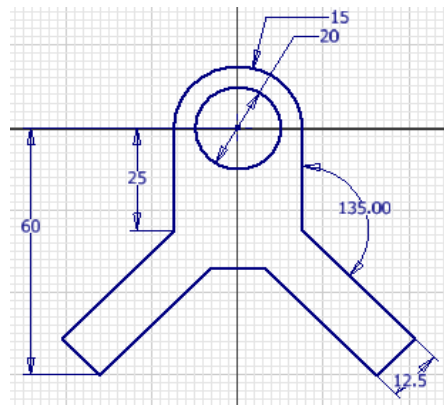

Figure 3-34 The final dimensioned sketch for Tutorial 2
1. Choose **Dimension** from the **Constrain** panel of the **Sketch** tab and select the circle. Place the diameter dimension below the arc dimension. Enter **20** in the **Edit Dimension** edit box and then press Enter. This completes the sketch for Tutorial 4. The final dimensioned sketch is shown in Figure 3-34.